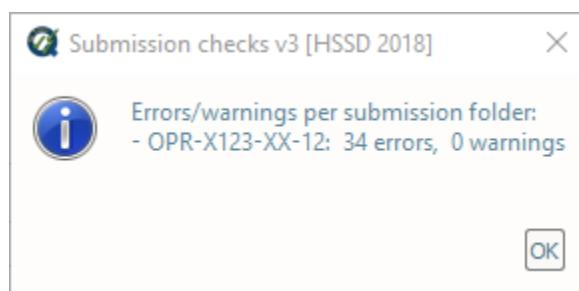

Fig. 2.56: The **Submission check** output message.
- After computing, the output window opens automatically, and the results are shown (Fig. 2.56).